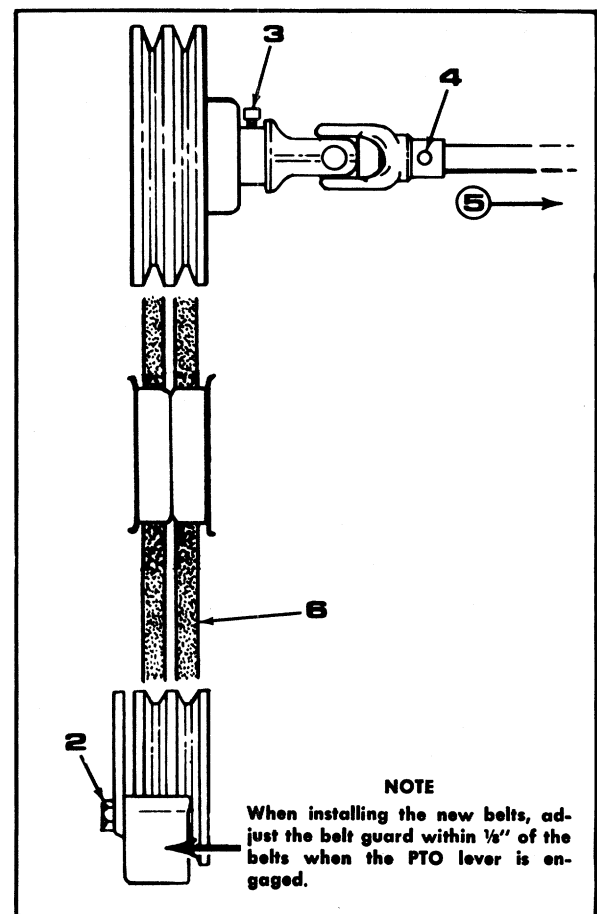

FIGURE 22. PTO BELT REMOVAL
- Step 2. Remove the lower belt guard. See Figure 22.